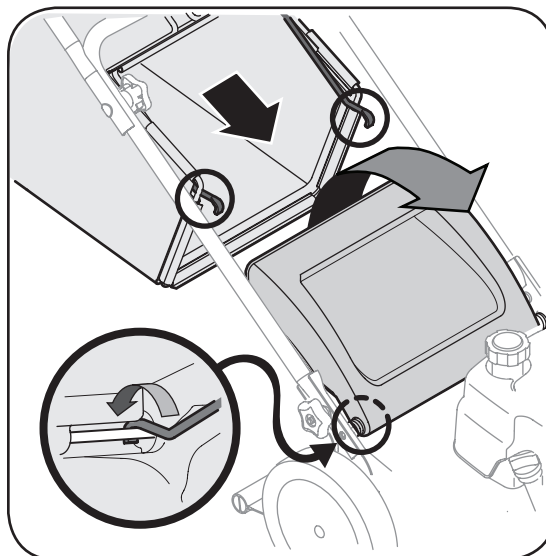

Figure 3-6: Attach the grass catcher.
- b. Place grass catcher on the pivot rod. Let go of discharge door so that it rests on the grass catcher. See Figure 3-6.